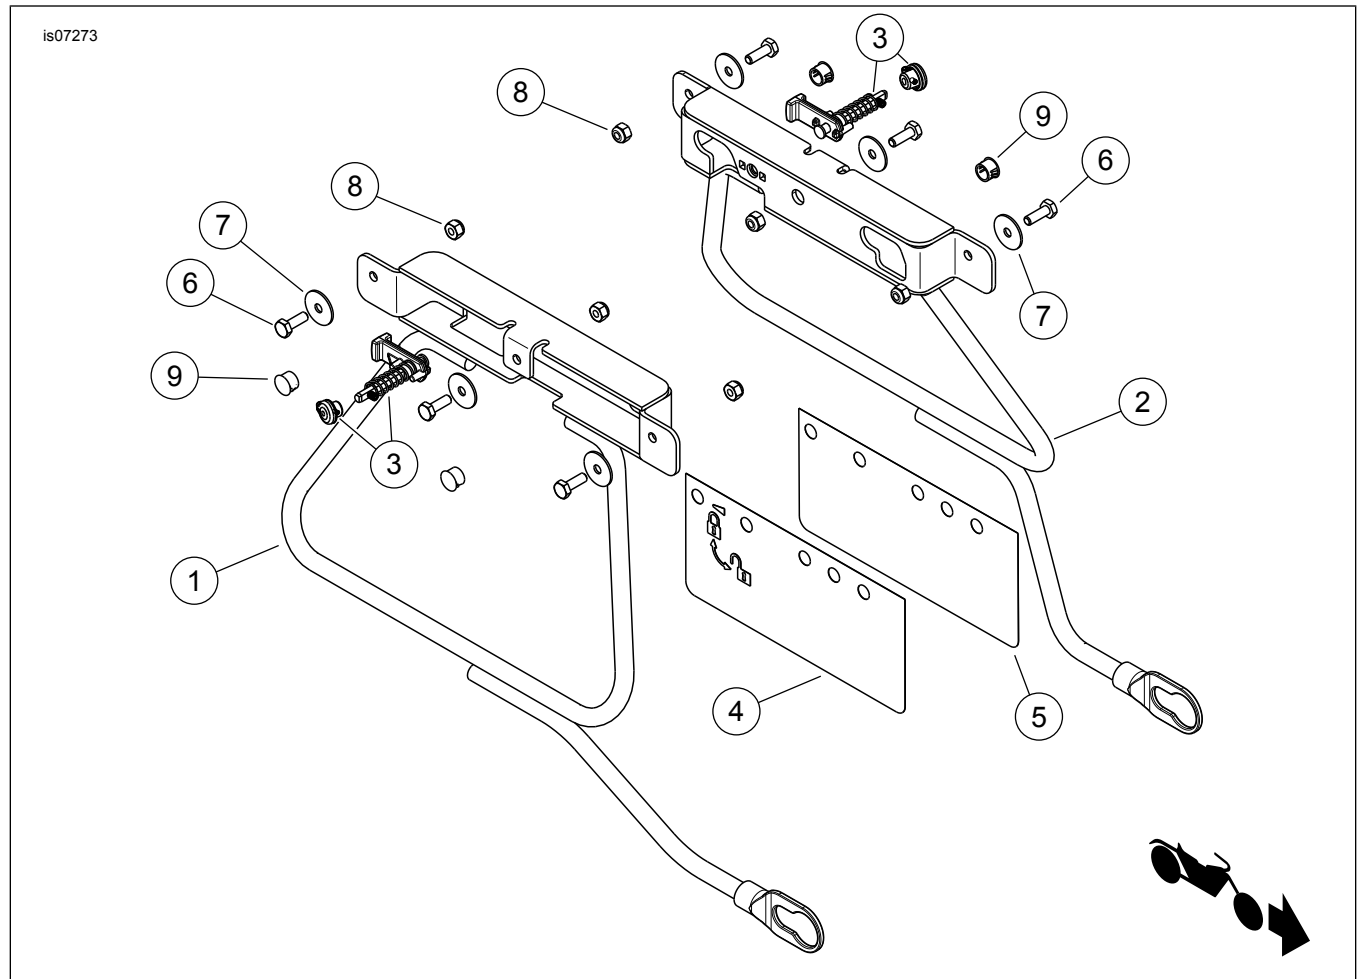

Figure 7. Service Parts: Softail Detachable Saddlebag Conversion Kit
- j. See Figure 7. Insert latch pin (part of service kit 3) through the mounting bracket. Position latch in the bracket and align the square mounting bosses with the square holes in the bracket. Install the spring over the pin and latch.
- l. Install the mounting bracket (1 or 2) to the saddlebag and secure with screws (6), washers (7) and nuts (8). Insert screws from inside the saddlebag. Tighten to 8.1–10.8 N·m (72–96 in-lbs).
- n. Insert plastic plugs (9) into the holes in the saddlebag. When using a flat top kit, the plugs need to be inserted from the inside of the saddlebag. The flat top bracket then captures the plug between the bag and the flat top bracket.